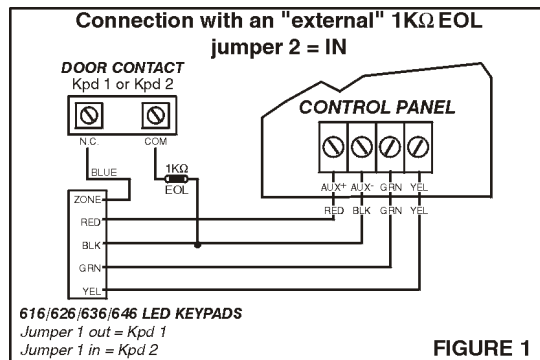

FIGURE 1
1) Connection with an “external” 1K Ω EOL resistor Jumper 2 [J2] = IN (See Figure 1 and 3)